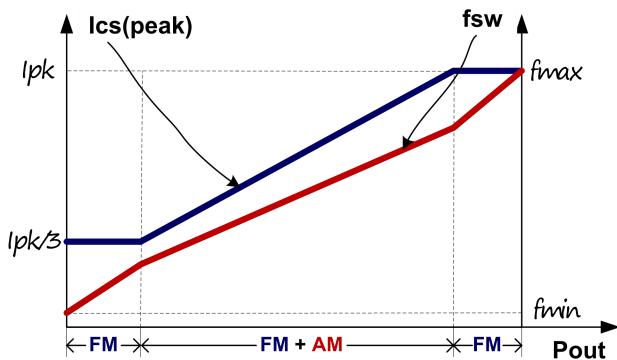

Fig.4
To meet the tight requirement of averaged system efficiency and no load power consumption, a hybrid of frequency modulation (FM) and amplitude modulation (AM) is adopted in DP2525B which is shown in the Fig 4.